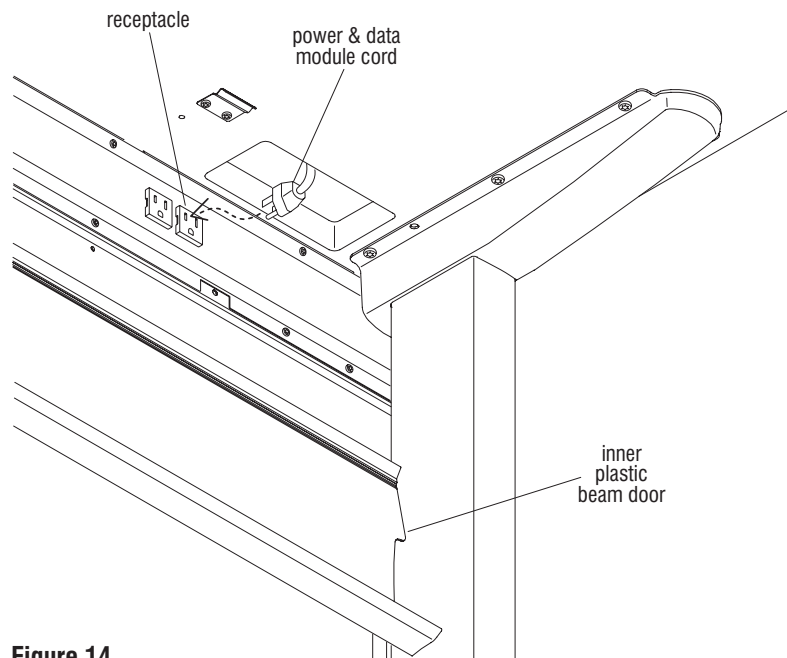

Figure 14
3. From under the worksurface, if not already done, open the inner plastic beam door. Access the power and data module cord and plug it into the receptacle in the power beam. For non-powered beam applications, route the 108" cord down through the vertical data wireway, (according to instructions on page 11). Communication lines may also be connected to the power and data module at this time (Figure 14).